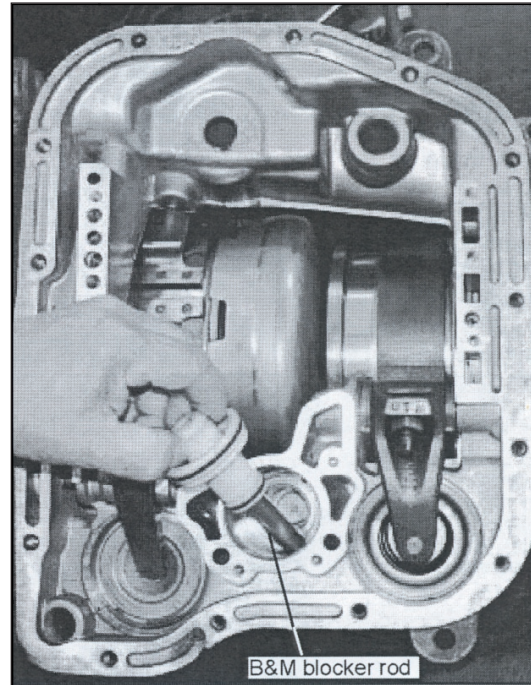

Figure 2
- Install the blocker rod as shown below rod as shown below (Figure 2).